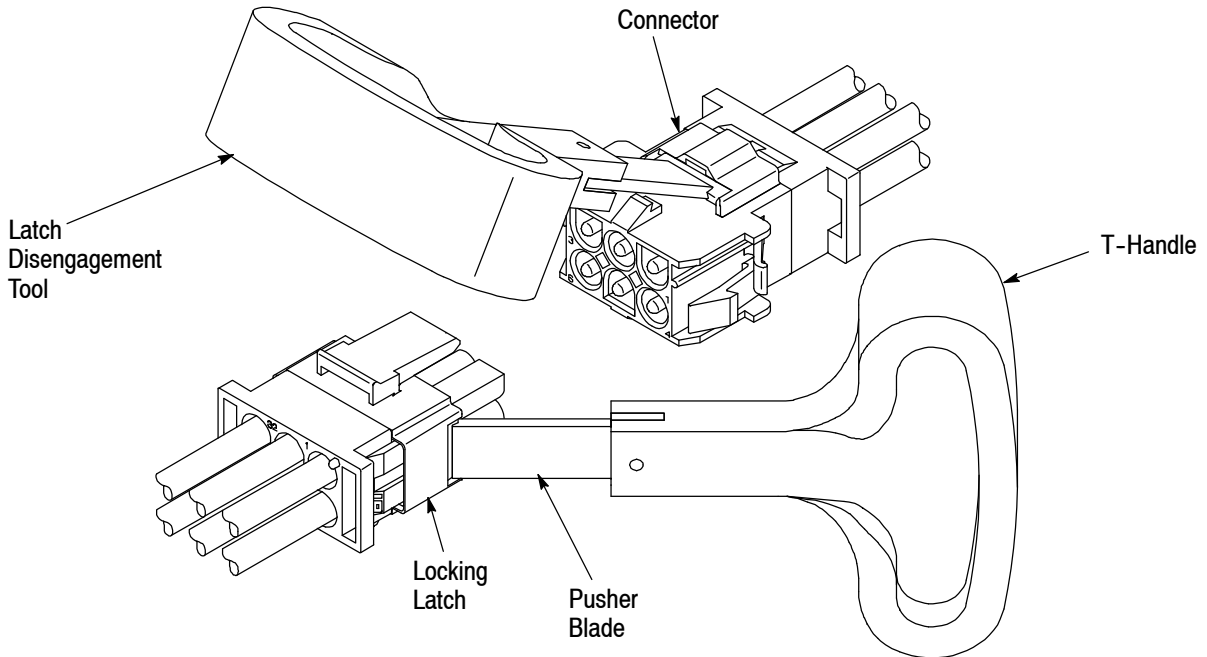

Figure 8
2. Move the contact in a slight circular motion while pulling on the wire; this releases the retention shoulder from the housing cone. See Figure 8.